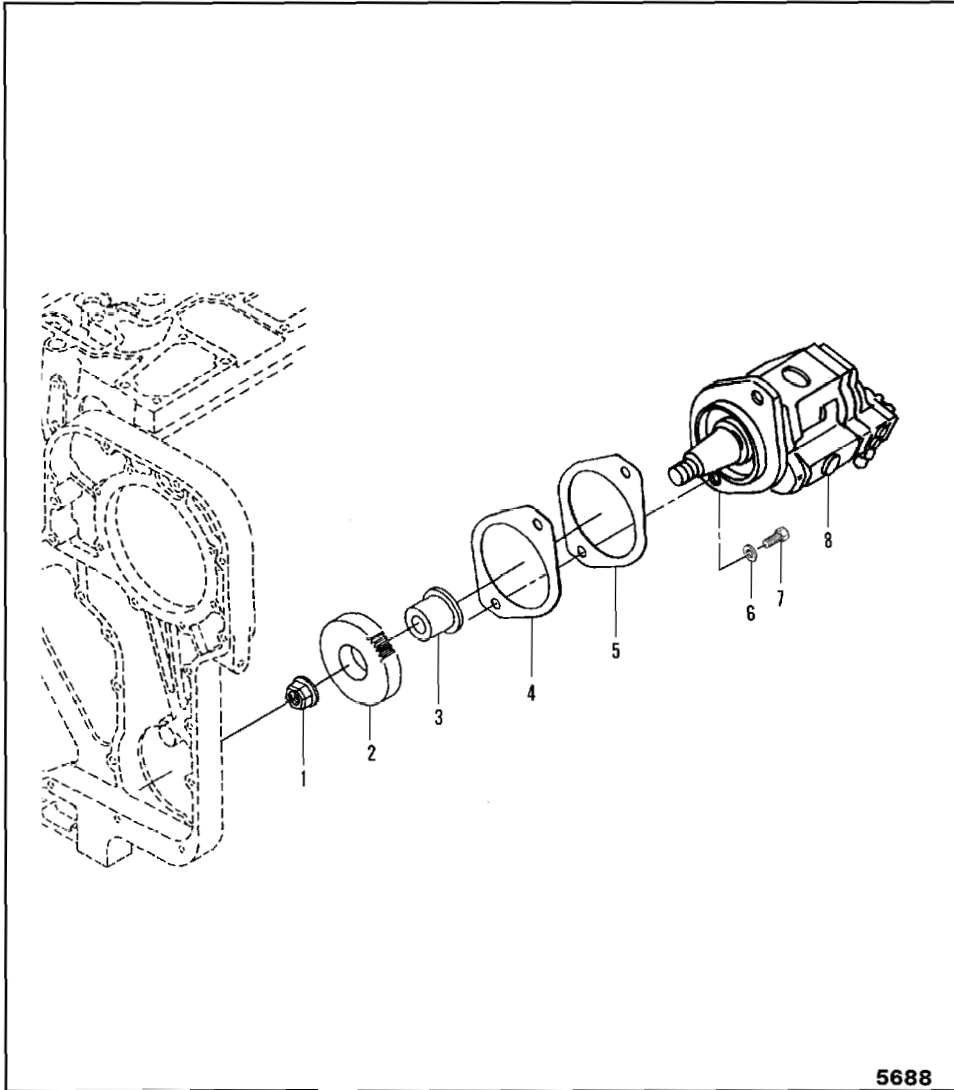
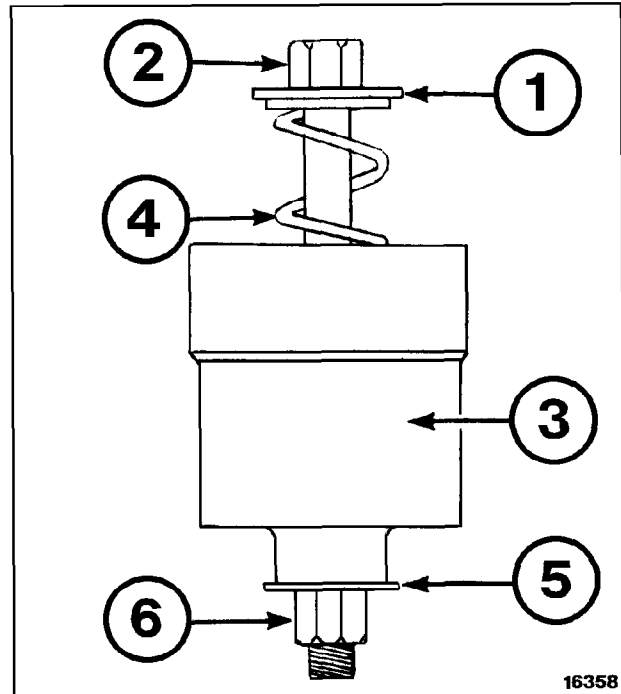
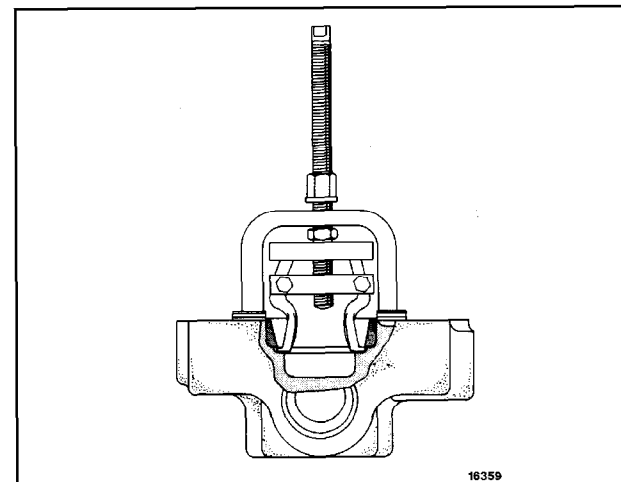

Figure 1 EXPLODED VIEW OF STEERING & BRAKE PUMP MOUNTING
Figure 8
Figure 9
10. Place plain washer (1, Figure 8) under head of long bolt (2), and insert threaded end through center of cylinder block (3). Be sure bolt extends approximately 1.500 In. (38.100 mm) beyond edges of cylinder block and has enough threads to allow for approximately 1.000 In. (25.400 mm) of spring (4) expansion when retaining ring (15, Figure 1) is removed. Plain washer (5, Figure 8) and nut (6) on threaded end of bolt and tighten nut until spring is depressed enough to allow removal of retaining ring (15, Figure 1). Slowly loosen nut (6, Figure 8) to relief tension on spring. Remove nut from bolt and remove washer (16, Figure 1), spring (17, Figure 1) and thrust washer (18, Figure 1).
11. Remove retainer ring (23, Figure 1).
12. Using an arbor press, remove shaft seal (24, Figure 1) out of housing (3). Use short piece of 1.500 In. (38.100 mm) heavy wall tubing as a press tool.
13. Alignment pins (7 and 9, Figure 1) need not be removed unless damaged.
14. If it is found that the drive shaft bearing (5, Figure 1) is defective, remove bearing race from valve block (Figure 9).